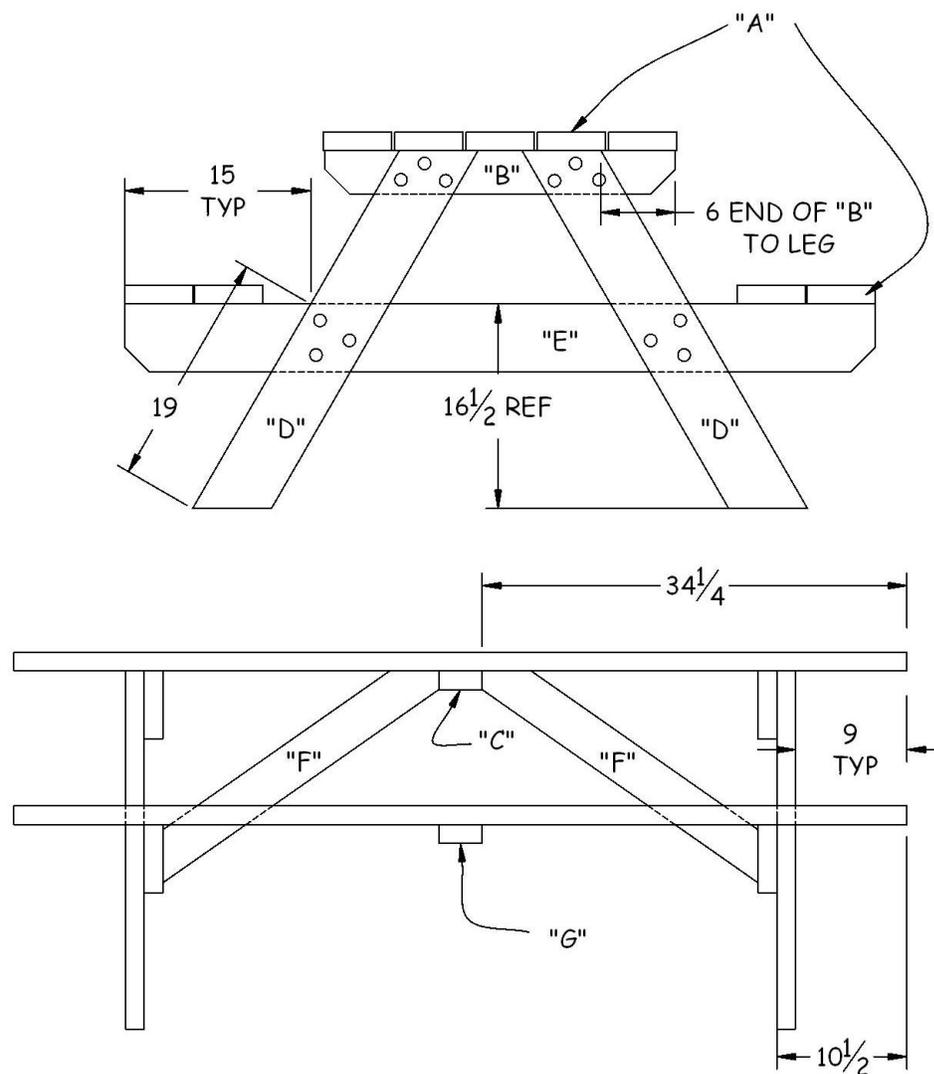

Figure 24-2. Picnic Table Assembly.
4. To build one leg assembly, place one Component “B” and one Component “E” parallel to each other on a flat surface. Lay a pair of legs (Component “D”) on top of the first two components so they approximate the arrangement in Figure 24-2. Place scrap 2x support blocks under the four intersection points.
5. Position the legs so they are inside the 6” marks on Component “B” and the cut angles of the legs are flush with the top of Component “B” (see Figure 24-2). Drill three 11/32” holes through each Component “D” into Component “B” at least 1” from the edges (to avoid component failure). Insert one 3½” carriage bolt into each of the six holes (to anchor the three pieces into position).
3. Drill two ⅛” pilot holes through the seat into each bench support, about 1” in from each edge of the seat. Attach the seat to the bench supports using 2½” deck screws at each anchor point (see Figure 24-2).
1. Position the tabletop pieces (Component "A") centered on top the bench leg assemblies so that each end of a tabletop piece is 9" from the outside face of its associated Component "D". Space the pieces $\frac{1}{8}$ " apart (use 8d nails) so the gaps between the boards are equal and the table top is evenly distributed across the top of the Component "B" pieces (see Figure 24-2).
4. Attach two angle supports (Component "F") in the center of the table with two 3" screws at each end. Make sure the double-notched end is positioned up and located in the center of the table. See Figure 24-2 for proper location of pieces.